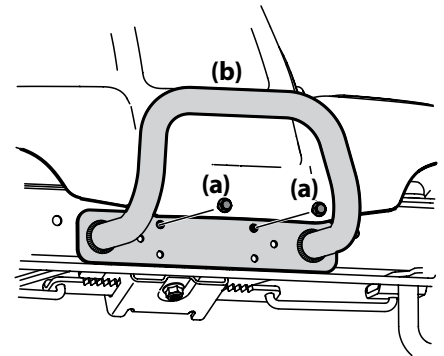

Figure 2-13
1. Remove the two screws (a) as shown in Figure 2-13.
2. Position the bumper (b) over the mounting holes and secure using the screws (a) removed in Step 1. See Figure 2-13.